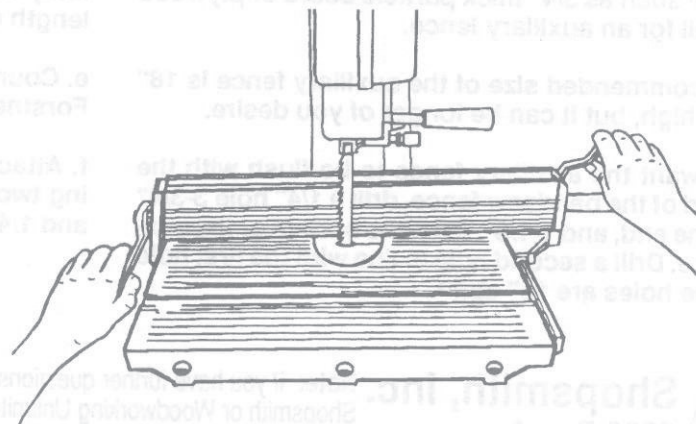

Fig. 18
16. Lock down the rear clamp lever (10).
a. If **too tight**, raise the handle, then use a 1/2" wrench to loosen the special hex nut (3). Continue loosening this nut until the rear clamp lever can be locked firmly. See Fig. 18.
b. If **too loose**, raise the handle, then use a 1/2" wrench to tighten the special hex nut (3). Continue tightening this nut until the rear clamp lever can be locked firmly. See Fig. 18.